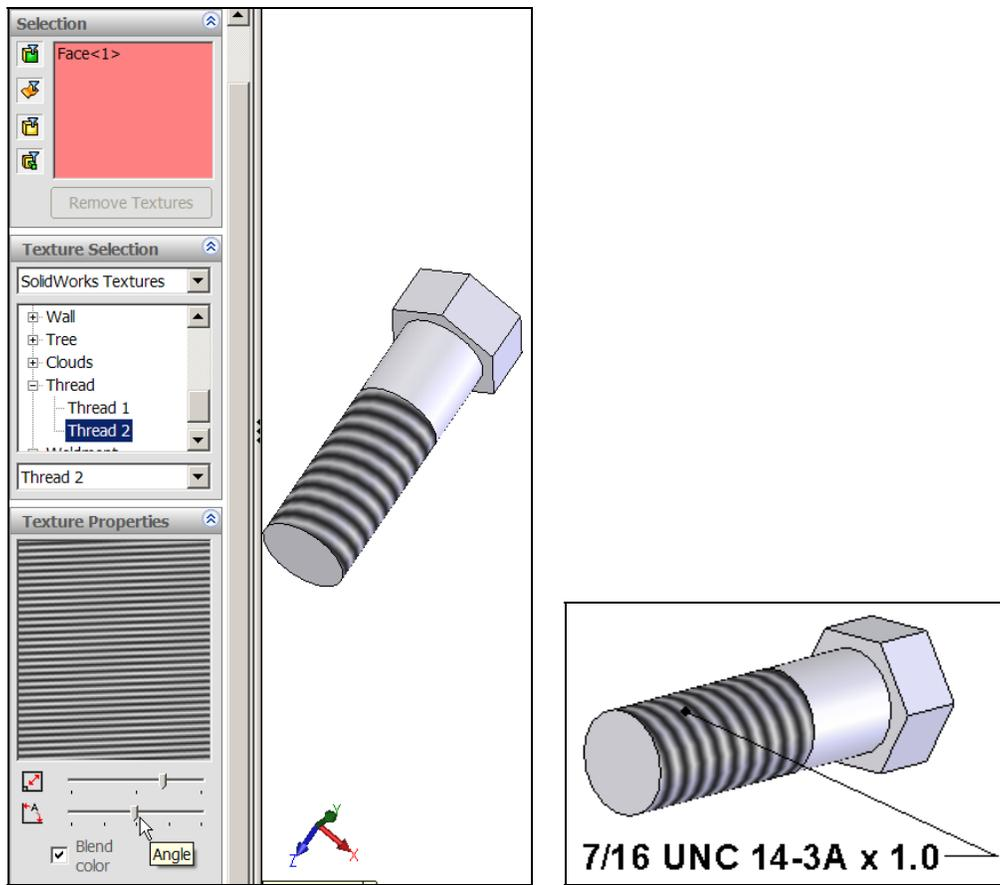

Figure 3 Selecting a "thread" texture and adding a descriptive note
6. Then describe the standard thread you want by adding a note to the texture surface, **Insert**→**Annotation**→**Note**. Give the diameter, number of threads per inch (or length if metric), the standard code, quality, and thread length (see Figure 3).